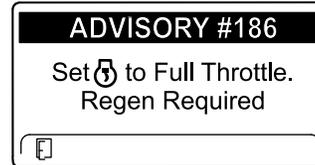

Figure 69
**Note:** If the engine exhaust temperature is too low, the InfoCenter displays ADVISORY #186 (Figure 69) to inform you to set the engine to full throttle (high idle).